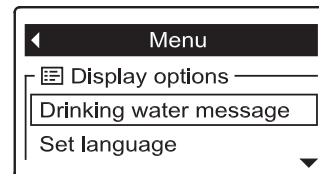

FIG. 111
2. Press the remote's SELECT (O) button to display the drinking water status menu (See Figure 111).
3. If necessary, press the DOWN (▼) button to scroll through the menu options until **Drinking water message** is highlighted in a box (See Figure 111).
5. The current message has a black dot next to it. Press the DOWN (▼) or UP (▲) buttons to scroll between the two messages, then press SELECT (O) to choose one.
6. Press the SELECT (O) button. The display will go back to the menu shown in Figure 111.